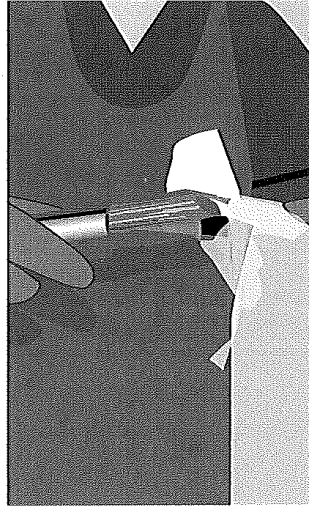

Fig 2. Attach the catheter port to the suction tubing
- Open the end of the catheter package to expose the catheter port. Hold the catheter, which is still in its packaging, and attach the catheter port to the suction tubing (Fig 2).